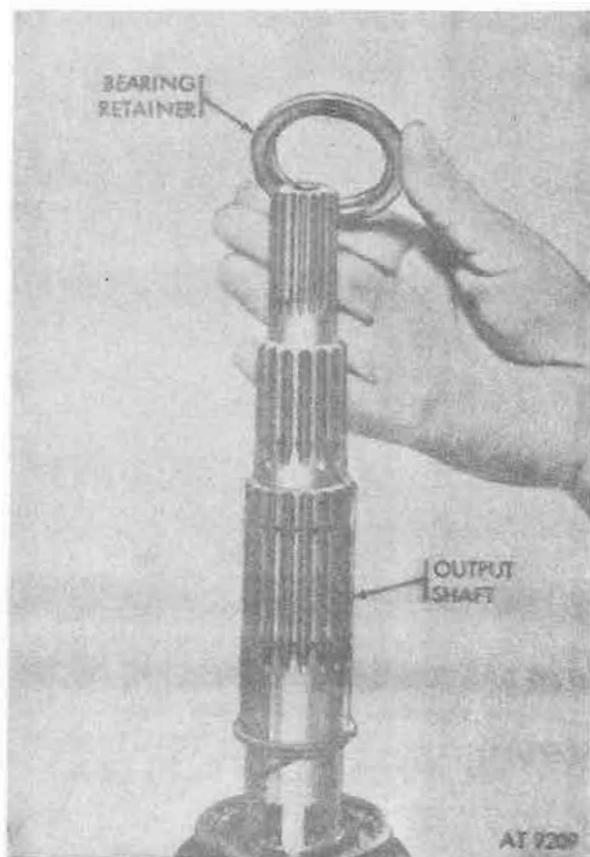

Figure 8-76. Output shaft bearing retainer.
k. Remove bearing retainer from output shaft (fig. 8-76).
b. Install bearing retainer on output shaft. Refer to figure 8-76.